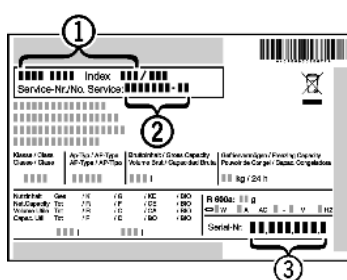

Fig. 22
- ▶ Read off the appliance name *Fig. 22 (1)*, service no. *Fig. 22 (2)* and serial no. *Fig. 22 (3)* from the model plate. The model plate can be found on the inside of the appliance on the left.